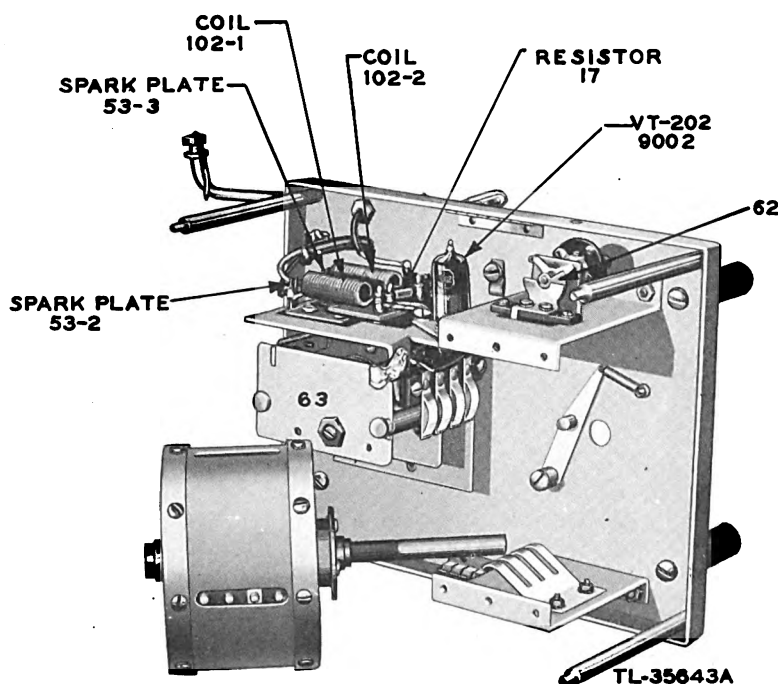
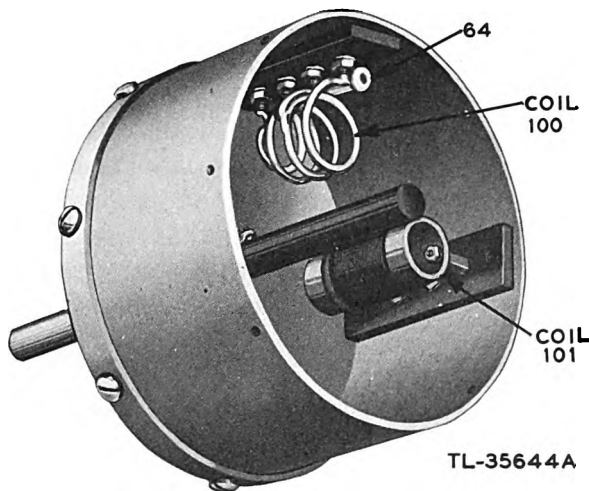

Figure 14. Signal Generator I-222-A, rear view of dial panel.
Figure 15. Signal Generator I-222-A, coil turret assembly.
(6) To replace the dial lamp, it is necessary to remove the detector-amplifier assembly. Remove the detector-amplifier assembly as described in paragraph 11a, (3). Press in on the lamp while turning counterclockwise until the lamp is released from the socket (fig. 14).
Unsolder the wire connected to the terminal of capacitor 62 (fig. 14). Remove the three capacitor support mounting screws. Remove the clamp which holds the rubber covered cable in place. Remove the capacitor support assembly mounting plate. Unsolder the connections to the stator of capacitor 63. Remove the three capacitor mounting screws which fastens the capacitor to the capacitor-supporting mounting plate. Remove the capacitor. Assemble in reverse order.
(9) To replace l-f band coil 101 or h-f band
coil 100, remove the high-low frequency oscillator assembly as described in paragraph 11a (4). Remove the six bearing plate mounting screws. Remove the bearing plate and the coil turret (fig. 14). Remove the eight screws that mount the end of the coil turret to the turret housing (fig. 15). Remove the screw which holds the other end of the bakelite strip, on which the coil is mounted, to the turret housing. Remove the coil assembly. Assemble in reverse order.
(10) To remove tank coil 115, remove the cover of the detector-amplifier assembly. Remove the screw which fastens the coil to the case. Unsolder the wire at the coil terminal. Remove the coil. Assemble in reverse order.
(11) To replace switch 106, remove the detector-amplifier assembly as described in paragraph 11a (3). Remove the nut and washer which fasten the switch to the case. Unsolder the wires connected to the switch terminals and remove the switch. Assemble in reverse order.
(12) To remove the antenna support assembly, remove the detector-amplifier assembly from the panel as described in paragraph 11a (3). Remove the three antenna support mounting screws. Unsolder the wires at the terminals. Remove the support from the case. Assemble in reverse order.